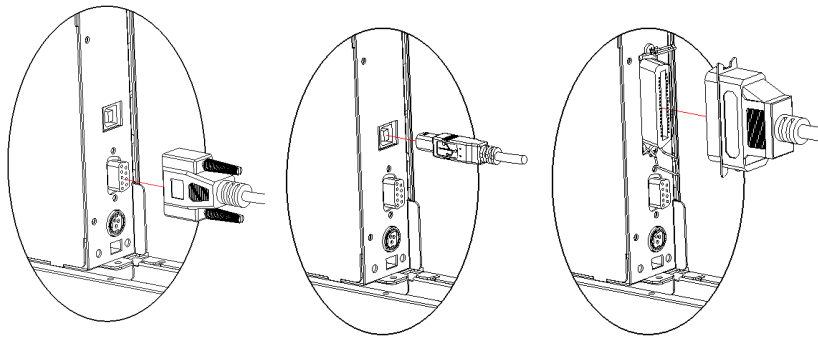

Fig.4.5-1                      Fig.4.5-2                      Fig.4.5-3
2. Connect the series interface cable, parallel interface cable and USB cable into a relevant interface of the printer, and fix them with screws or spanner springs (see figure 4.5-1,4.6-2,4.7-3);